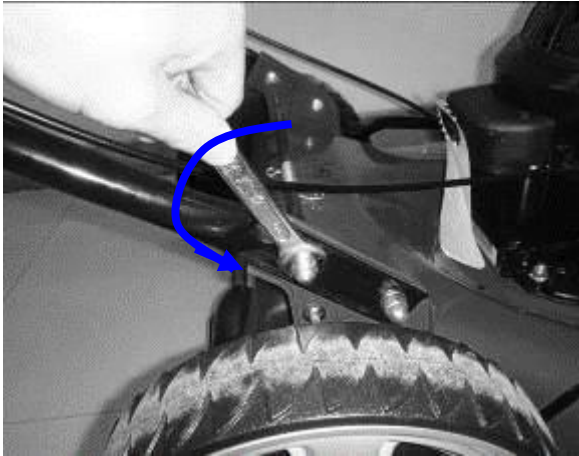

Fig.2F
1. Fix the lower handlebars into the unit body with a suitable spanner. (Fig.2F)